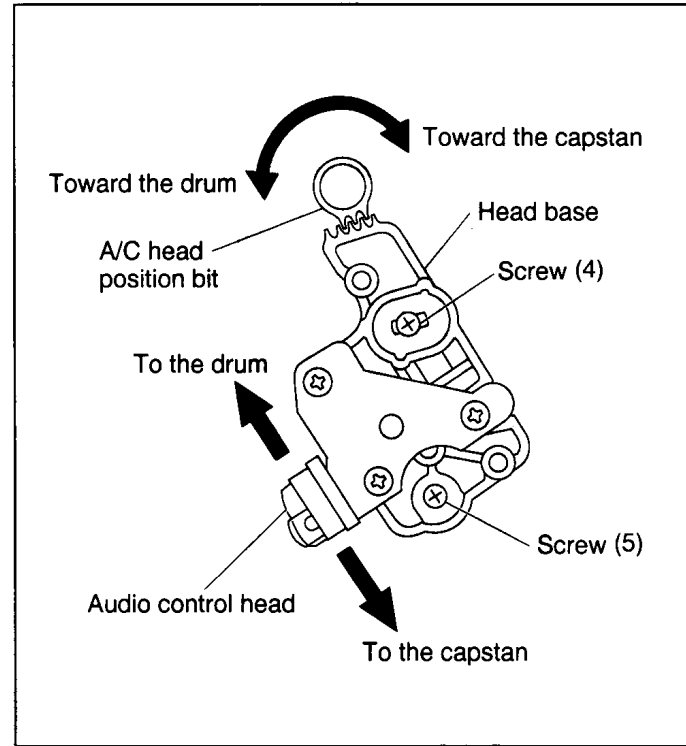

Fig. 2-3-6
- (1) Connect the oscilloscope to TP106(V.PB FM) of the main board assembly and to TP111(D.FF) of the main board assembly for external sync connection.
- (2) Play the alignment tape (SP) and observe the FM waveforms.
- (3) Press the channel buttons (▲, ▼) simultaneously during playback to enter the manual tracking mode. (This also brings tracking to the centre.)
- (4) Loosen screws (4) and (5) so that the A/C head position bit is set as indicated in Fig.2-3-6.
- (5) Turn the A/C head position bit fully toward the capstan. Then turn it back gradually toward the drum and stop on the second peak point position of the FM waveform output level. Then tighten the screw (4) temporarily.
- (6) Then play the alignment tape (EP).
- (7) Press the channel buttons (▲, ▼) simultaneously during playback to enter the manual tracking mode. (This also brings the tracking to the centre.)
- (8) Perform the tracking operation and make sure that the FM waveform is at its maximum.
- (9) If it is not at maximum, loosen the temporarily tightened the screw (4) and turn the A/C head position bit to bring the audio control head to a position, around where the waveform reaches its maximum for the first time. Then tighten the screws (4) and (5).